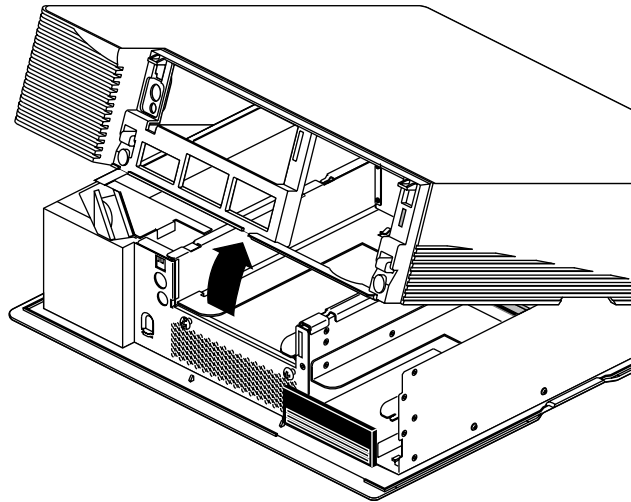

Figure 5-6 Removing the Top Cover
- Pull up on the cover and rotate it back and away from the chassis, as shown in Figure 5-6.